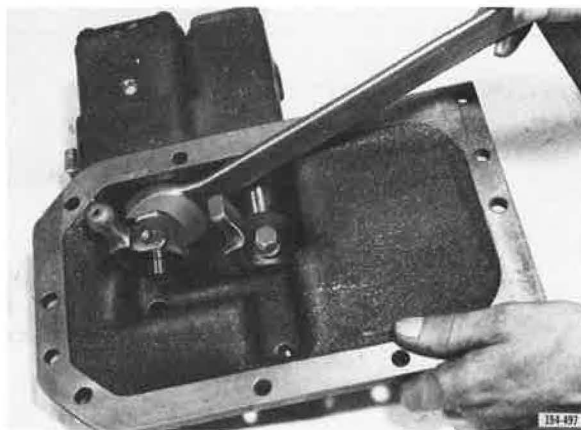

Figure 426. Tightening Locknut
8. Lock Lo/Hi shifter in neutral position by tightening the locknut. See Figure 426.